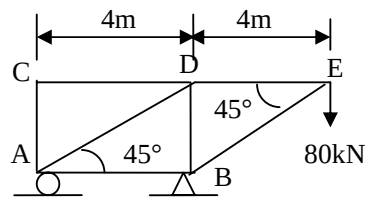

Fig.1
- Q.4** (a) Determine the member forces in the truss shown in fig.1, using a joint **07**